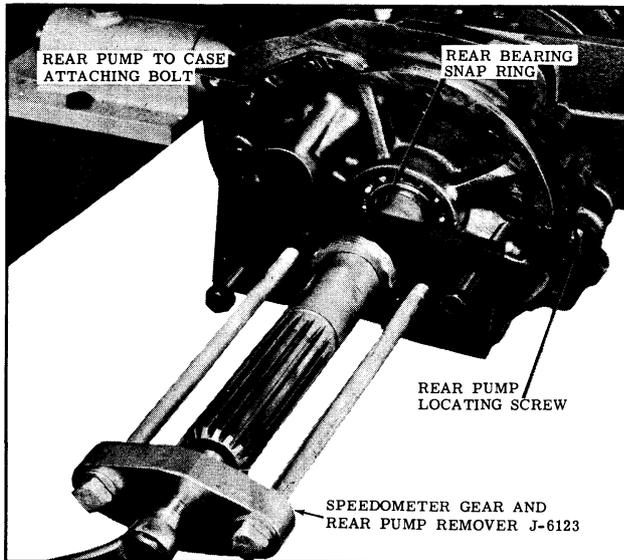

Fig. 3-37 Removing Speedometer-Drive Gear
5. Pull speedometer drive gear from the output shaft with Tool J-6123. (See Fig. 3-37)